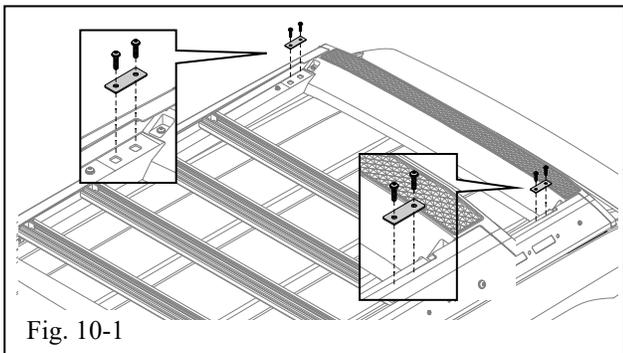

Fig. 10-1
- (a) At both locations shown, use a torx wrench to install a washer plate, and 2 bolts. Do not fully tighten the bolts yet. (Fig. 10-1).